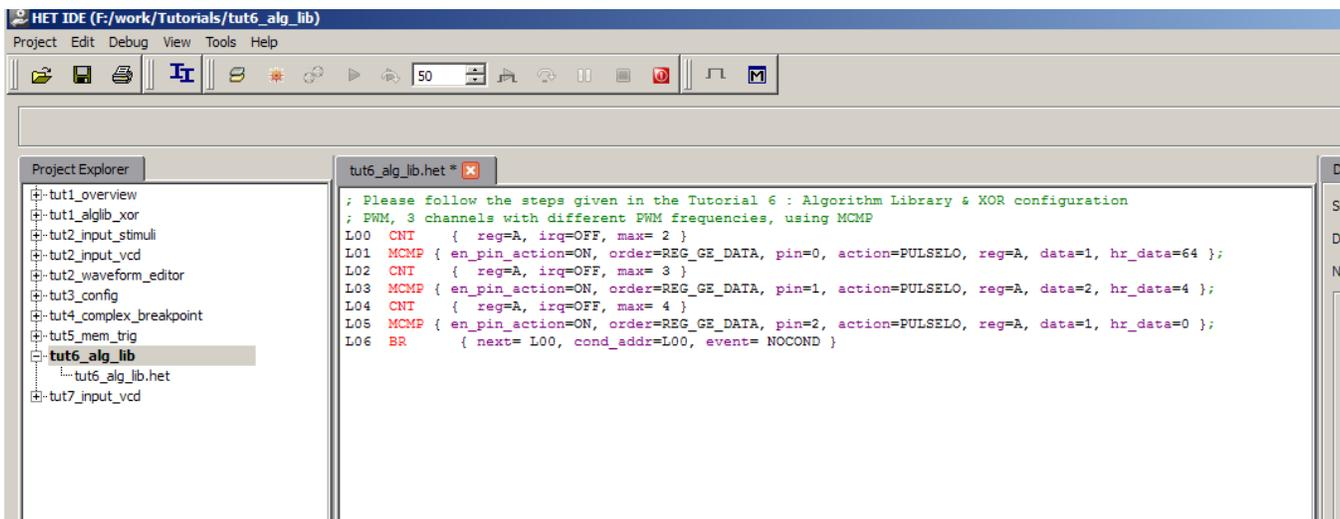

Figure 48. Algorithm Library
- (f) You should see that the three channel PWM algorithm has been inserted into your HET assembler program (see Figure 48).